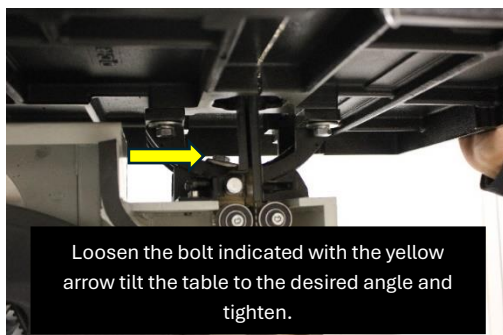

Figure 14: Tilting the Table.
**Table Tilt Scale:** The trunnion features a scale with a pointer that allows operators to set and monitor the desired table tilt angle accurately see (Fig.14).